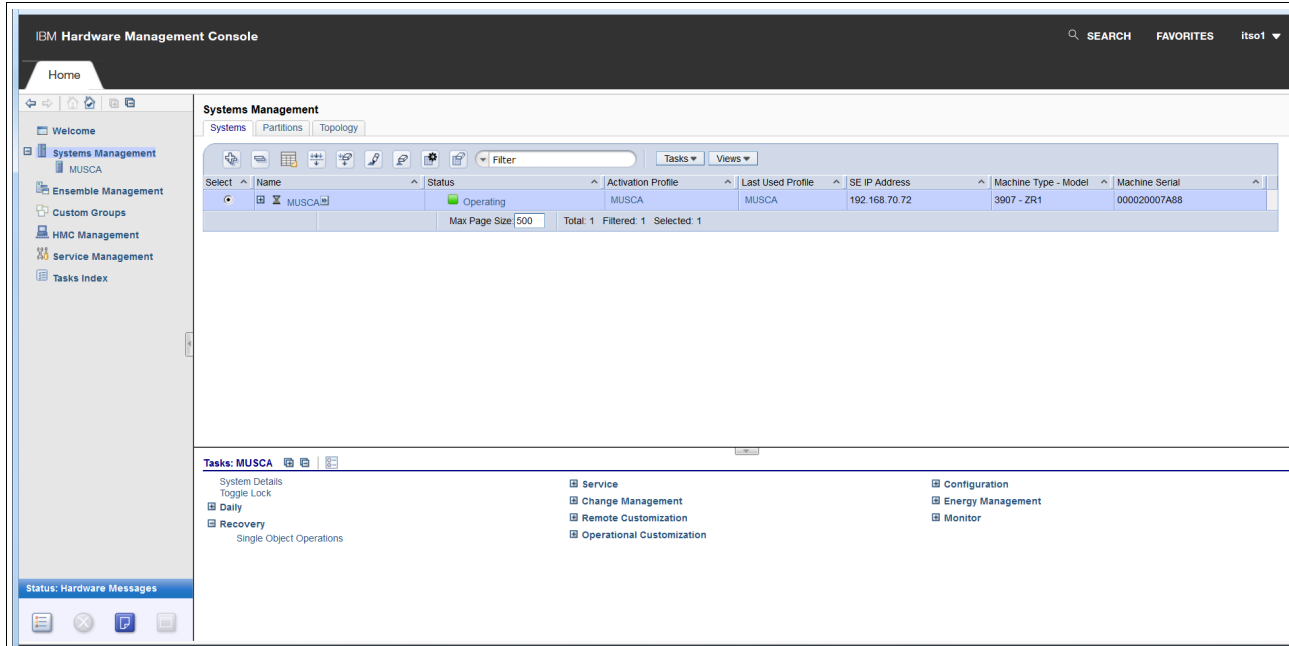

Figure 5-32 Systems Management: Main display
4. On the Tasks window, click **Recovery** to expand it, and select **Single Object Operations** (see Figure 5-32).